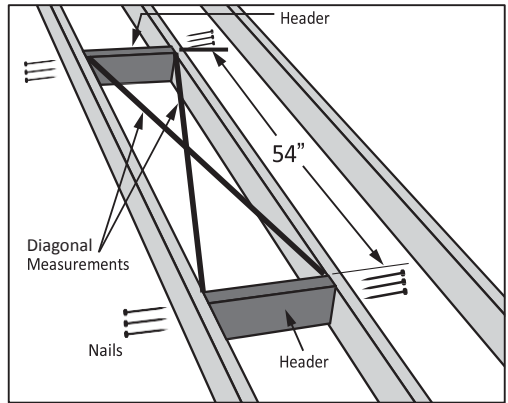

FIGURE 17
Make a rough opening to the size as required in table 1 ensuring that the dimensions of the diagonals of the frame are the same as illustrated in Figure 17.
### A. For Rough opening without joist removal (Figure 17)
- Locate headers in front and rear of the opening as shown in Figure 17.
- Secure using (3) 16d nails into each end of the Header.